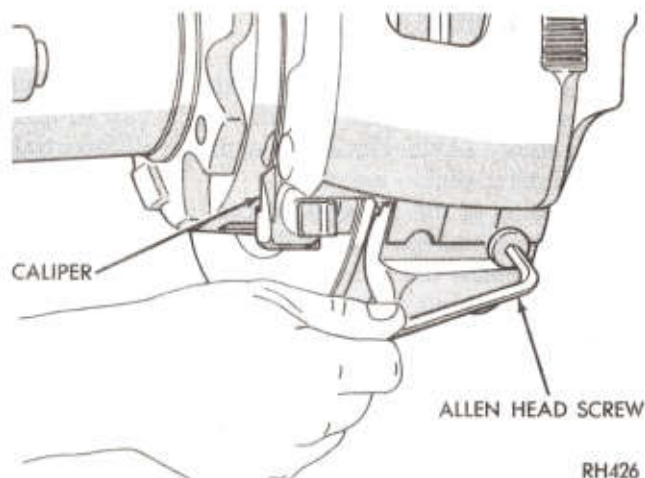

Fig. 3—Removing or Installing Allen Head Screw
- (1) Block brake pedal in the up position.
- (2) Raise vehicle and install jack stands.
- (3) Remove wheel and tire assembly.
- (4) Remove caliper to adapter allen screw (Fig. 3).
(1) Block brake pedal in the up position.
(2) Raise vehicle and install jack stands.
(3) Remove wheel and tire assembly.
(4) Remove allen screw holding caliper to adapter (Fig. 3).